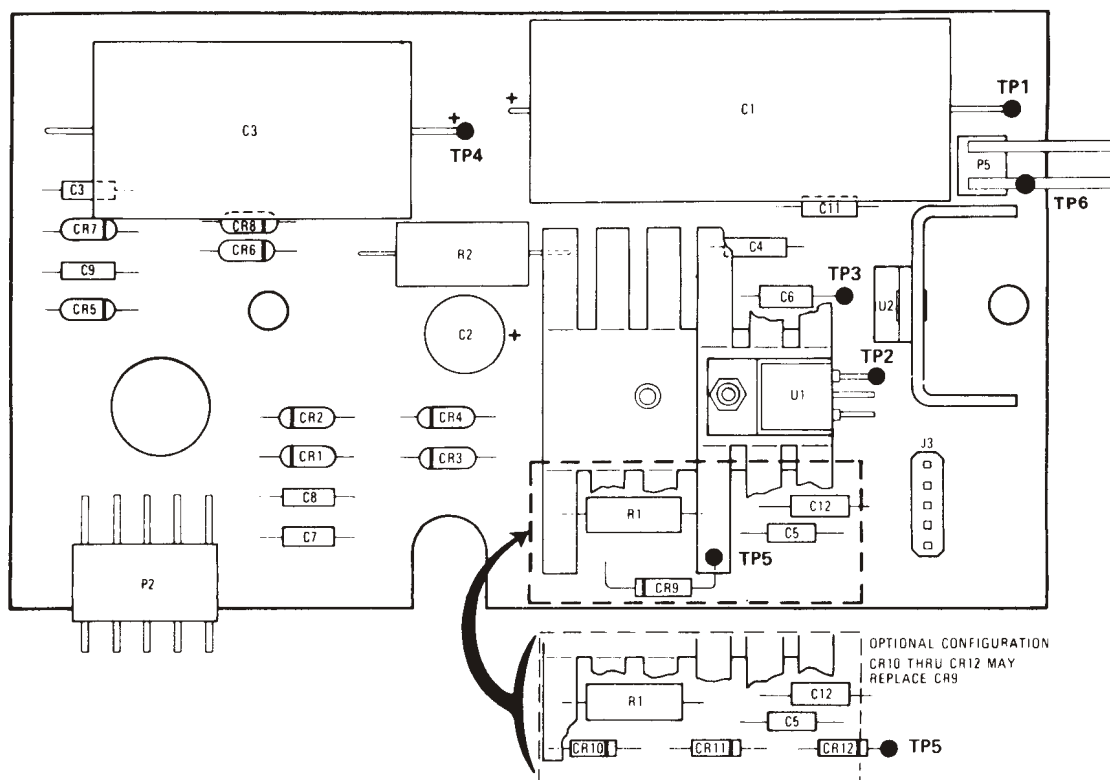

Figure 5 Test Points Location Diagram
- (a) Carefully remove 5-pin ribbon connector and 2-pin plug from the Power Supply Board (see Figure 5, Page 8).
- (c) Connect negative probe of voltmeter to Ground Test Point on the Power Supply Board. Connect positive probe to +5 Volt Test Point. Refer to Figure 5. Meter should read 4.85-5.15 VDC.
**(h)** Turn power off. Reconnect 5-pin ribbon cable and 2-pin plug. Turn power on and remeasure voltage at +5.65 volt connector pin. Meter should read 5.45 - 5.85 VDC. If voltage is not within limits, turn off power and measure resistance of R2 (Figure 5). If OK, replace logic board. If not OK, troubleshoot power supply board.
DO NOT CHECK SUPPLY VOLTAGES AT THE J3 RIBBON CONNECTOR AS METER PROBES COULD DAMAGE CONNECTOR PINS. CHECK VOLTAGES AT THE TEST POINTS SHOWN IN FIGURE 5.